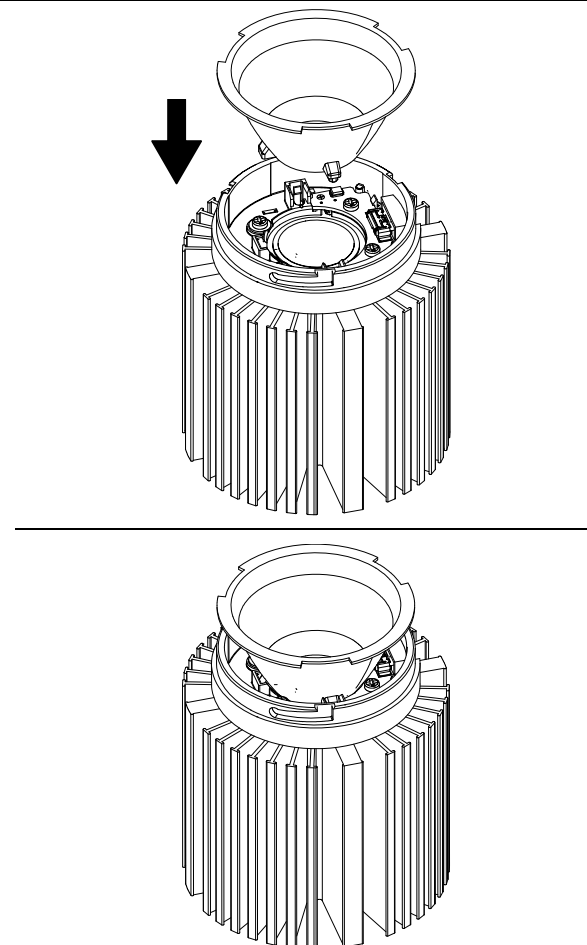

Figure 4
2. The reflector is then installed, aligning three keyways. Reflector posts have a slight click-fit into the light engine holes. Firmly seat the optic in place. See Figure 4.